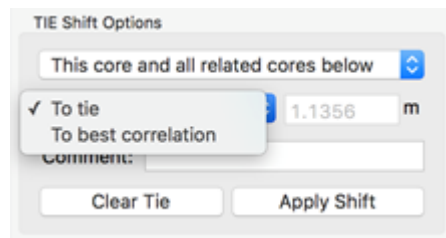

Figure 3-24. Tie control options “To tie” and “To best correlation”.
- Select “To best correlation” from the control pane (Fig. 3-24). This option does not have a context menu equivalent. The alternative is to shift “To tie”, the more common option. Note that using the statistical “To best correlation” option blindly may result in unexpected shifts!
- ∅ On the control pane, two buttons are available to Apply Shift or Clear Tie (Fig. 3-24).